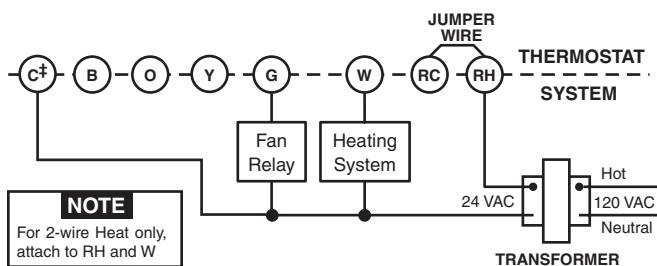

Figure 2. Typical wiring diagram for
2. Connect wires beneath terminal screws on base using appropriate wiring schematic (see figs. 2 through 7).